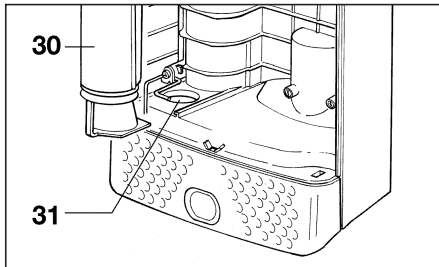

Figure 8
### Changing the Micro Filter - Figure 8
3. Microfilter not properly inserted.	3. Re-insert filter ( see pg.8, figure 8).